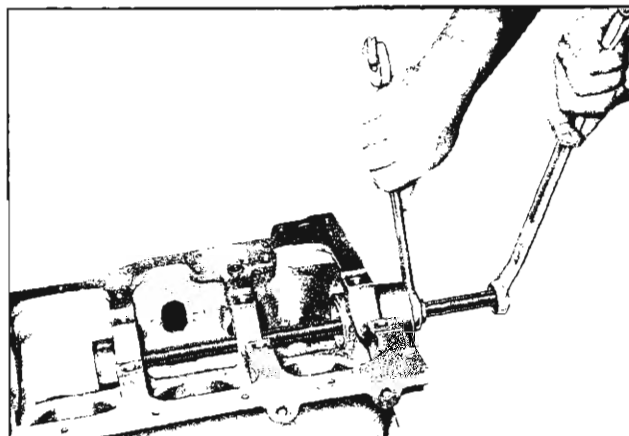

Fig. 42—Installing Camshaft Center Bearings
4. Using two wrenches, hold screw shaft and turn puller nut to pull bearing into place (fig. 42).